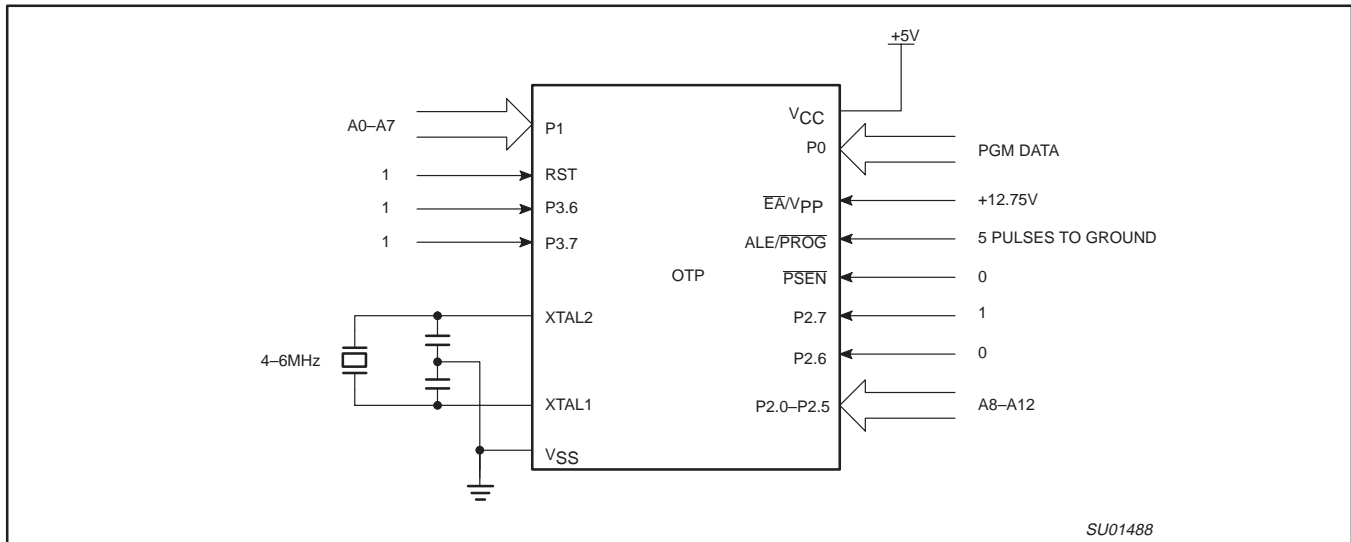
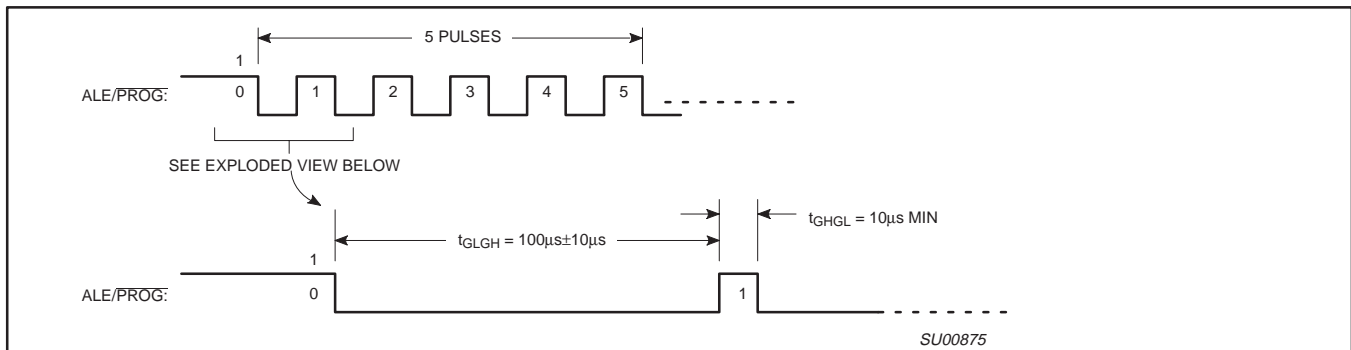
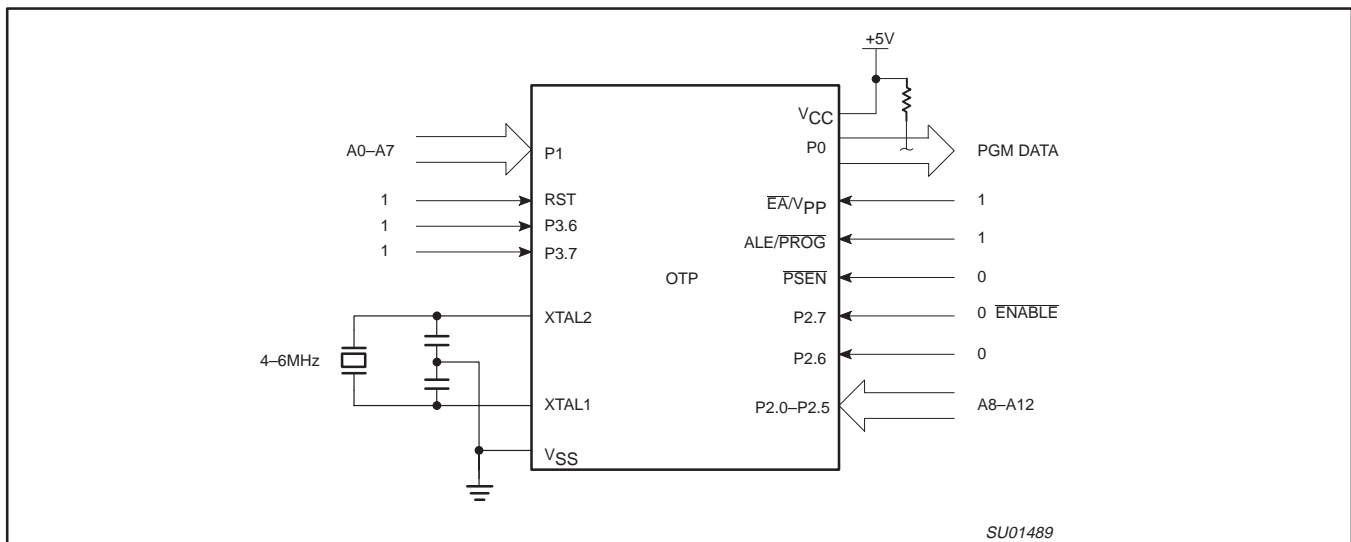

Figure 40. Programming Configuration
Figure 41. PROG Waveform
Figure 42. Program Verification
Table 9 shows the logic levels for reading the signature byte, and for programming the program memory, the encryption table, and the security bits. The circuit configuration and waveforms for quick-pulse programming are shown in Figures 40 and 41. Figure 42 shows the circuit configuration for normal program memory verification.
The setup for microcontroller quick-pulse programming is shown in Figure 40. Note that the device is running with a 4 to 6 MHz oscillator. The reason the oscillator needs to be running is that the device is executing internal address and program data transfers.
The address of the EPROM location to be programmed is applied to ports 1 and 2, as shown in Figure 40. The code byte to be programmed into that location is applied to port 0. RST, \overline{PSEN} and pins of ports 2 and 3 specified in Table 9 are held at the 'Program Code Data' levels indicated in Table 9. The ALE/ \overline{PROG} is pulsed low 5 times as shown in Figure 41.
If security bits 2 and 3 have not been programmed, the on-chip program memory can be read out for program verification. The address of the program memory locations to be read is applied to ports 1 and 2 as shown in Figure 42. The other pins are held at the 'Verify Code Data' levels indicated in Table 9. The contents of the address location will be emitted on port 0. External pull-ups are required on port 0 for this operation.
- * FOR PROGRAMMING CONFIGURATION SEE FIGURE 40.
FOR VERIFICATION CONDITIONS SEE FIGURE 42.